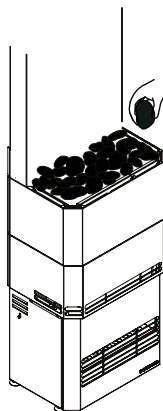

Figure 22
8. Fill the basket evenly with stones, wearing gloves to protect your hands. When the basket is correctly filled, install the next basket section and fill it up to the top edge (Figure 22). See also **LOADING THE STONES** on page 16.